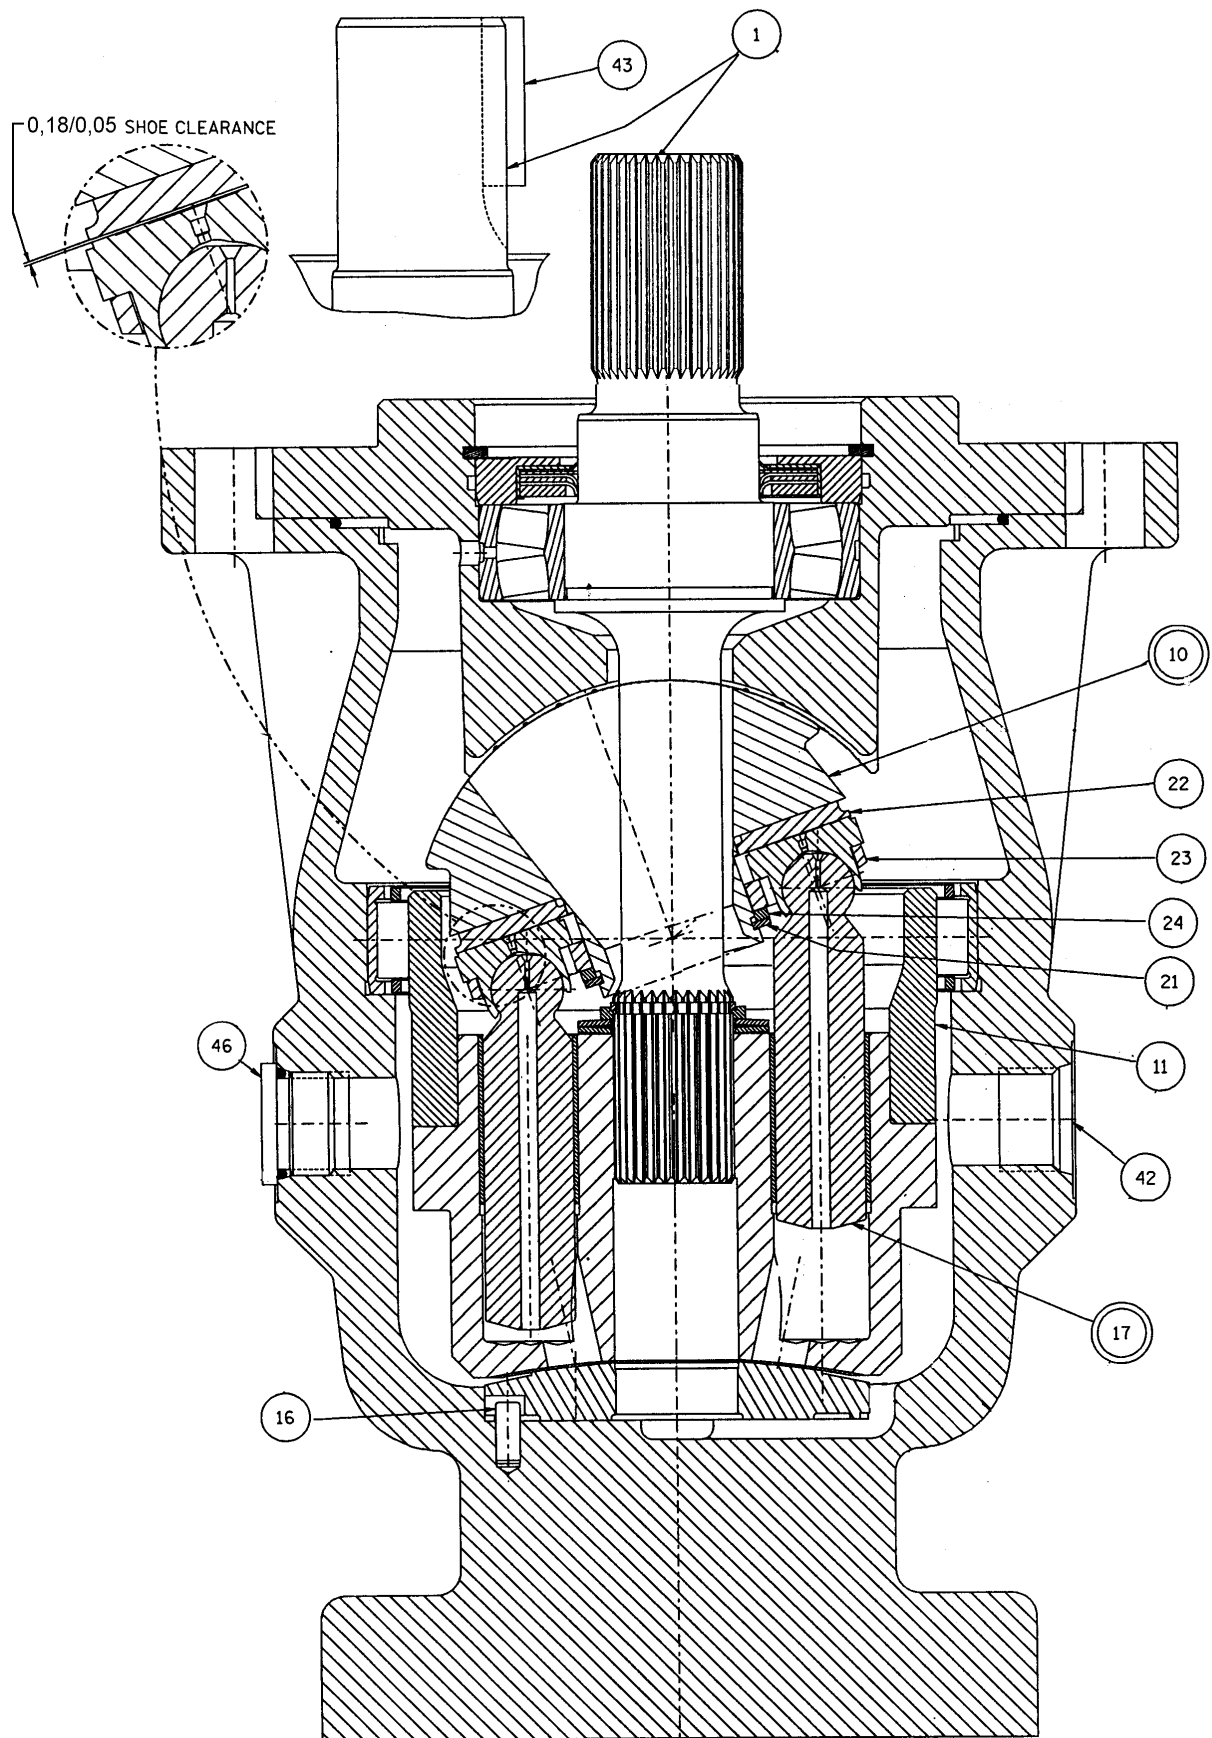

FIGURE 4
Remove port plate alignment pin (16), figure 4, from port block.
Install pin (16 figure 4) into port block.
See figure 4. Install socket head cap screws (9) as shown. Torque to 41 Nm. Install case drain plugs (42) and (46).